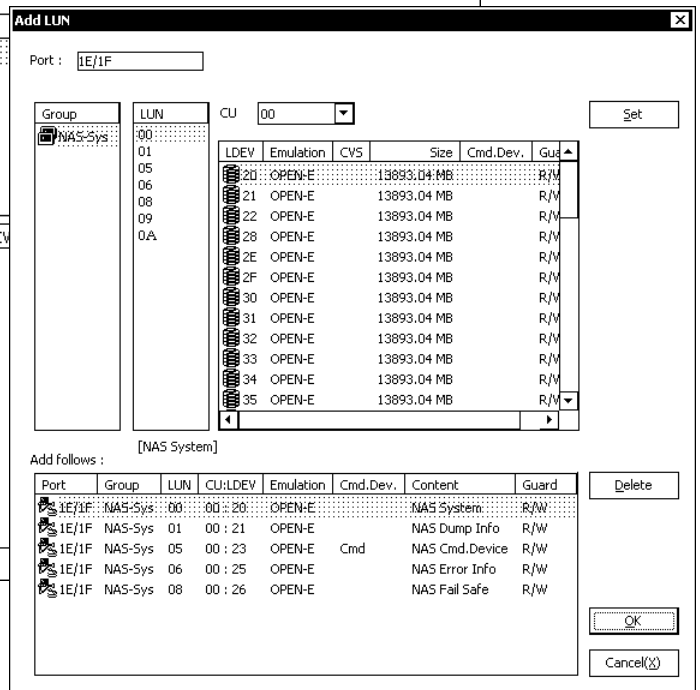

Figure 11.1.2 LUN Registration Window
- ③ Since the LUN Registration window (Figure 11.1.2) is displayed, select the LUN and CU: LDEV, and then select (CL) the [Set] button. The LUN information that has been set is displayed in the “Add follows” list.
Definition of the system LU numbers (LUN#), 00, 01, 05, 06, 08, 09, and 0A is indispensable for each CHN. When the system LU numbers (LUN#), 05, 06, 08, 09, and 0A have already been defined for another CHN, system LU numbers (LUN#), 05, 06, 08, 09, and 0A of the CHN concerned can be selected by the same LDEV only. Besides, system LU numbers (LUN#) following 0B are to be defined for the other CHNs. They are set automatically in order to allow the other CHN to collect information on a self CHN failure when the failure occurs. They cannot be defined through the window shown in Figure 11.1.2 because they are set automatically when system LUNs of the other CHNs are defined. (For the system LUN, refer to Tables 11.1.3 and 11.1.4.)